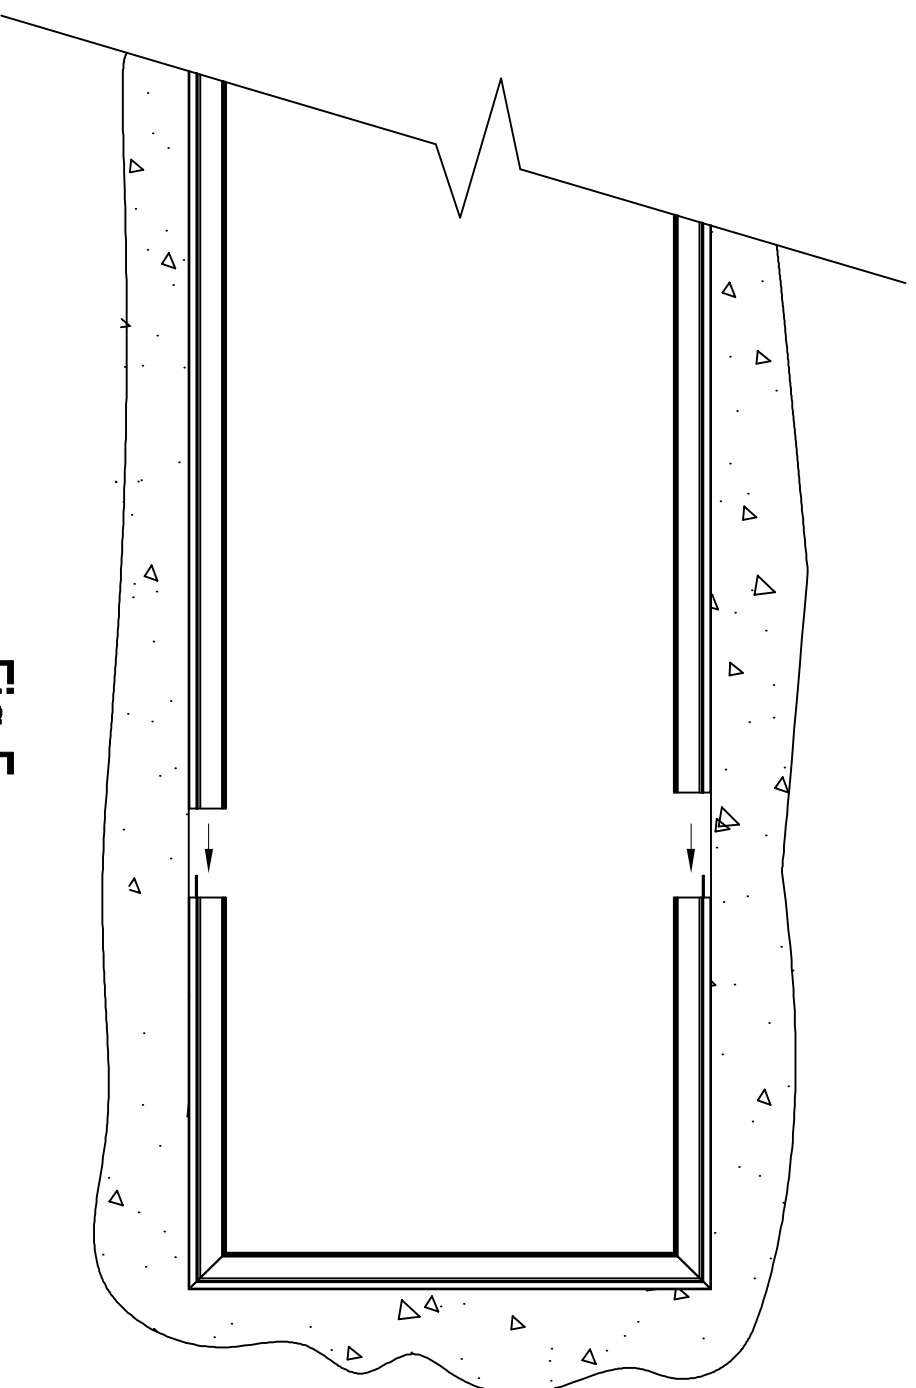

Fig 5
- 2.) Slide the sill or head base extrusions over exposed splice block. See Fig 5.